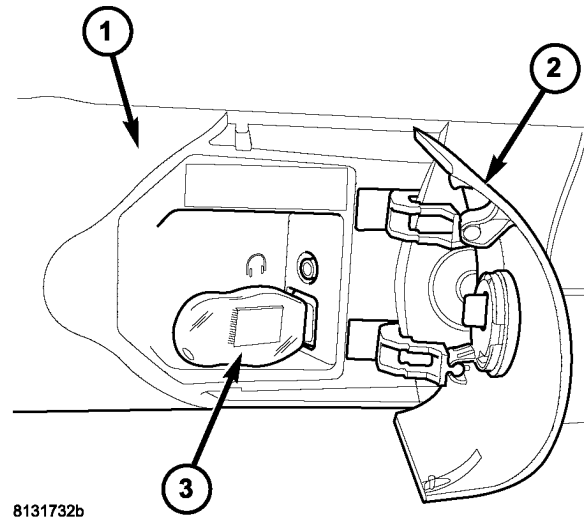

Fig. 12 USB KEY AND TECHCONNECT PC
15. Insert the USB key with the file(s) into the TechCONNECT PC (Fig. 12).